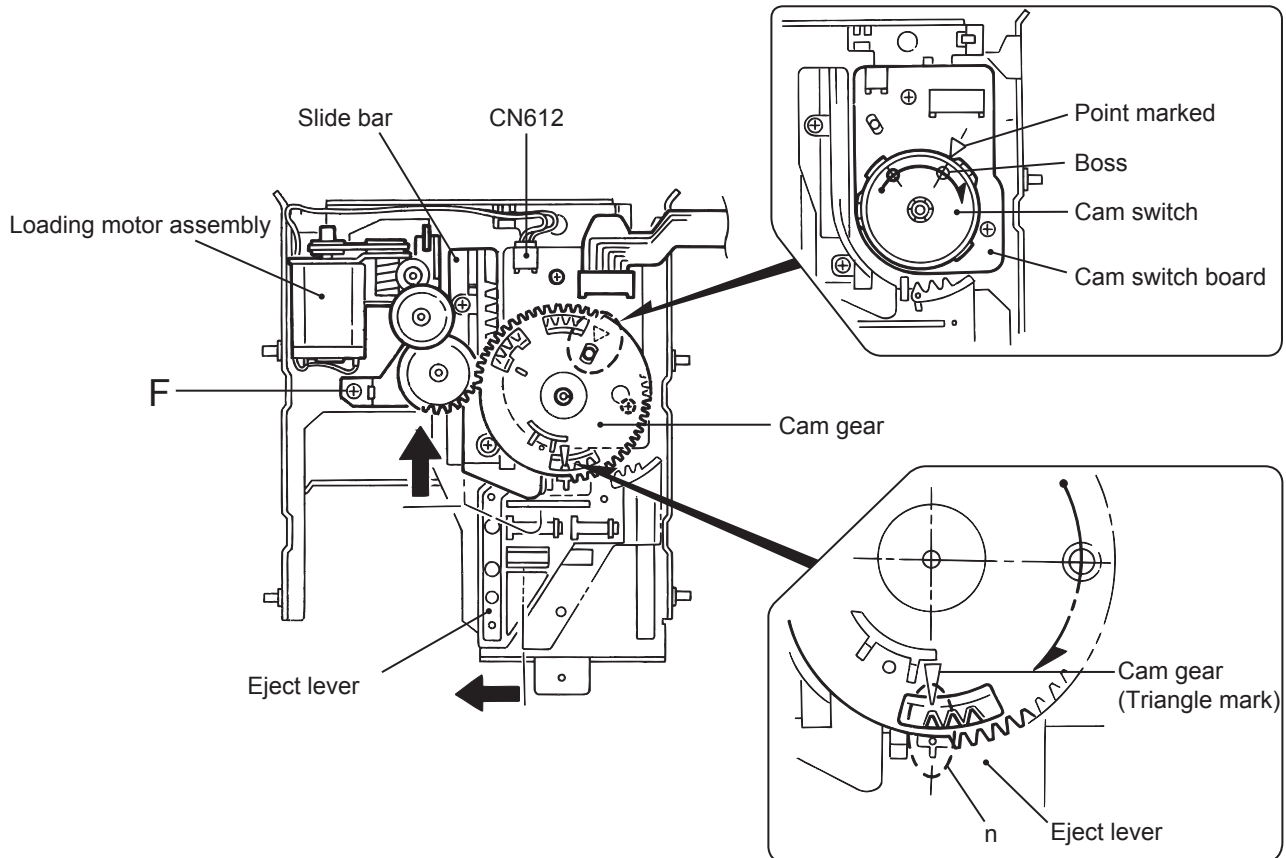

Fig.23
- (4) Reattach the wire holder to the UD base while engaging the UD base hook marked u to the wire holder slot marked t (At the same time, the boss on the reverse side of the wire holder is fitted to the UD base round hole).
- (5) Reattach the cam switch board using the two screws **H**. (Fig.23)
- (6) Turn the cam switch to bring the boss to the point marked ∇ on the cam switch board. Reattach the cam gear using a slit washer while fitting the cam gear slot to the cam switch boss. (Fig.23)
When reattaching the cam gear, the cam switch boss should be fitted to the cam gear slot, and the triangle mark of the cam gear should be aligned to the hole of the eject bar as shown in Fig.23.
- (7) Reattach the loading motor assembly, using the screw **F**. Connect the harness extending from the loading motor to connector CN612 on the switch board and fix it with the wire holder. (Fig.23)